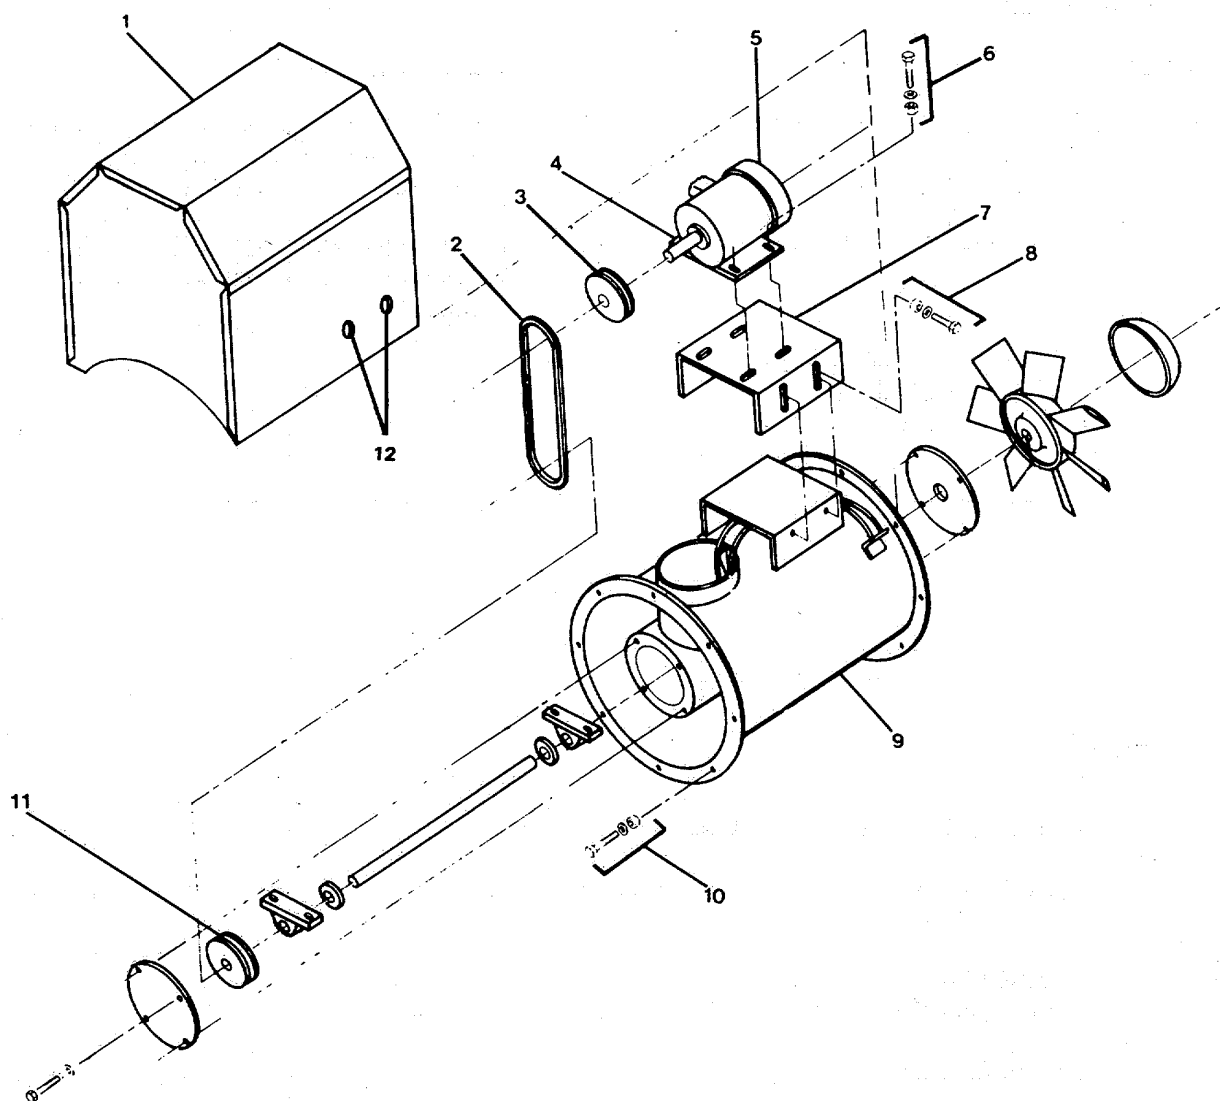
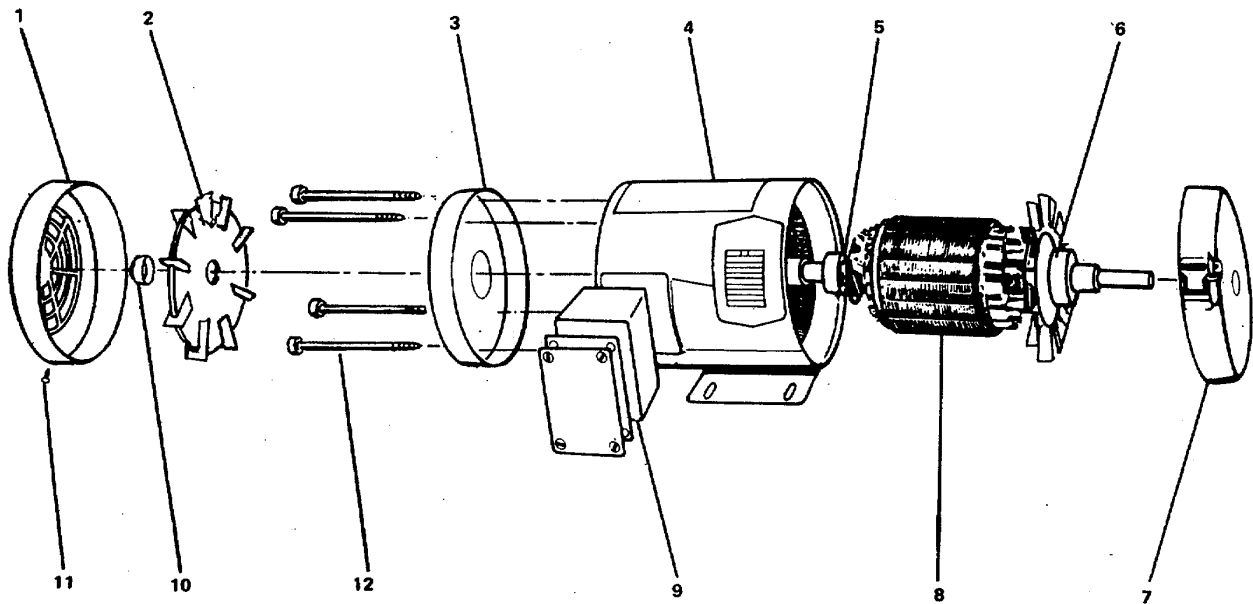
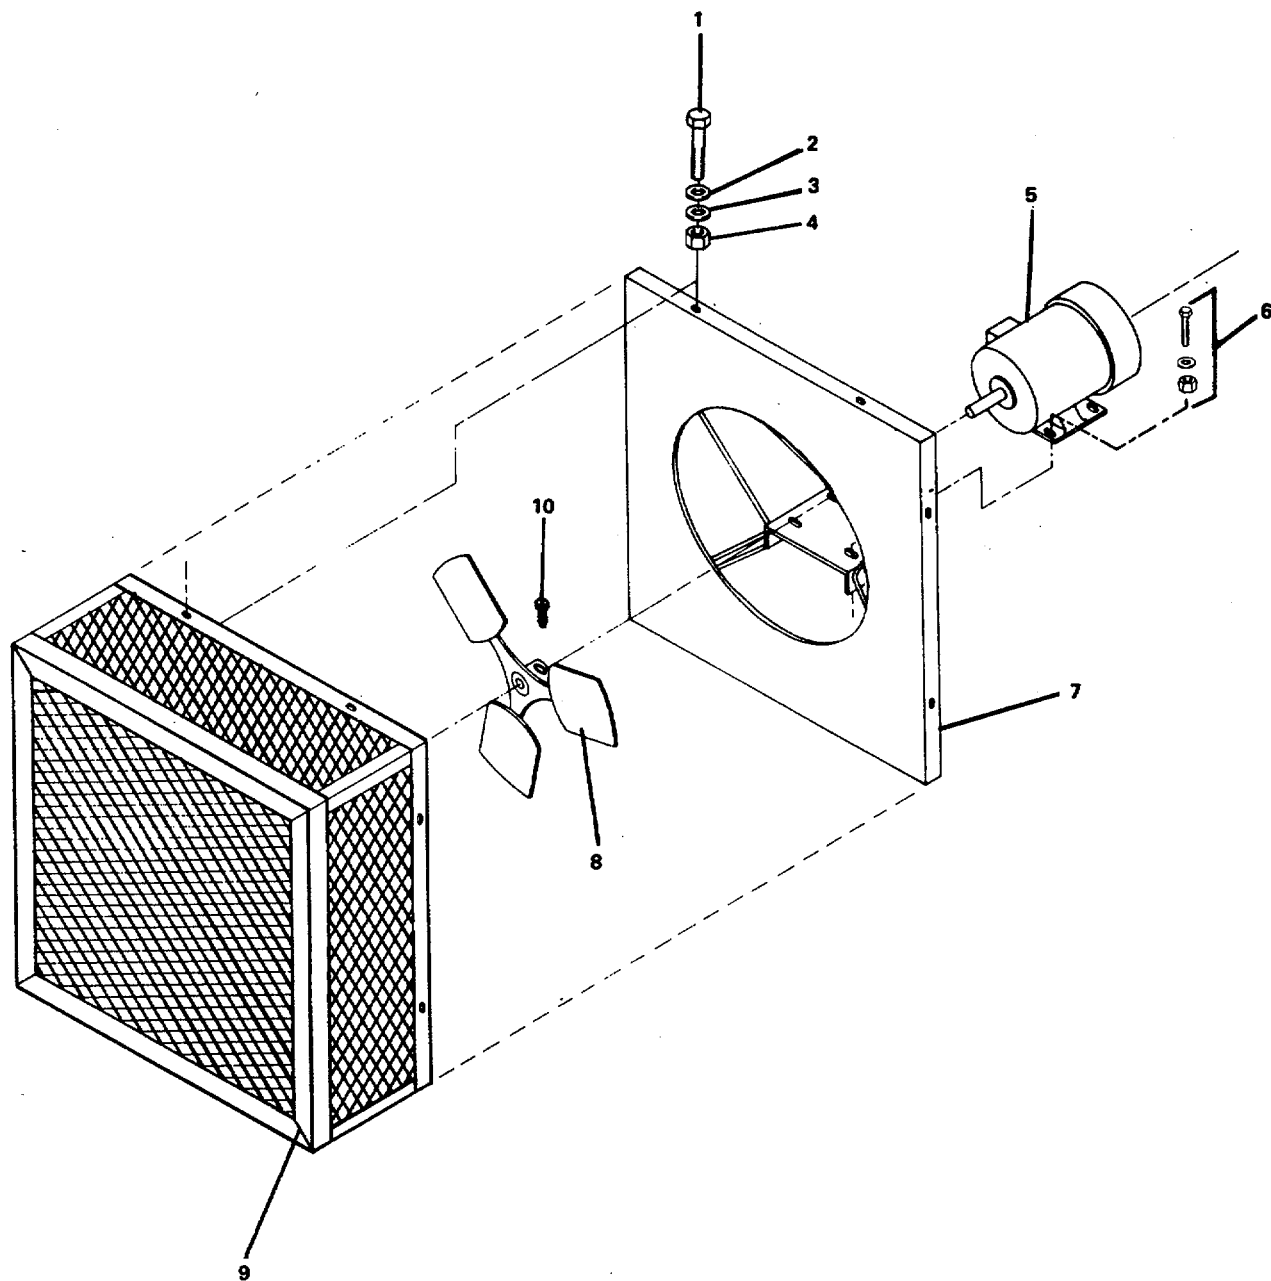

Figure 2-15. Ventilating Fan (Supply Fan #4).
Figure 2-16. Alternating Current Electric Motor.
Figure 2-17. Ventilating Fan (Supply Fan #5).
2-25. Repair Fan, Ventilating (Supply Fan #4) (Bowthruster Room). (FIGURE 2-15)**This task covers:**
2-26. Replace/Repair Motor, Electric, Alternating Current (Supply Fan #4). (FIGURE 2-16)
- b. Tag and disconnect electrical wiring in motor terminal box (9, FIGURE 2-16).
- c. Refer to paragraph 2-25 and FIGURE 2-15, and remove the motor as follows:
- (1) Loosen tension on V-belt. Remove belt from around motor pulley (3, FIGURE 2-15).
- (2) Use a puller and remove the motor pulley (3) and machine key (4).
- (3) Remove motor mounting bolt, nut, and lockwasher assemblies (6).
- (4) Remove the motor (5) from the motor base (7).
Repair consists of replacing bearings (5) and (6), FIGURE 2-16.
- (1) Remove screws (11) and remove fan cover (1).
- (2) Remove locking hub (10) and external fan (2).
- a. Refer to paragraph 2-25, and FIGURE 2-15, and install the motor as follows.
- (1) Position the motor on mounting base (7, FIGURE 2-15).
- (2) Install motor mounting bolt, nut, and lockwasher assemblies (6). Do not secure until pulleys (3) and (11) are aligned.
- (3) Align pulleys (3) and (11), install V-belt (2) and adjust tension (paragraph 2-25).
- (4) Connect electrical wiring to proper terminals in motor terminal box (9, FIGURE 2-16).
2-27. Repair Fan, Ventilating (Supply Fan #5) (A/C and Emergency Generator Room). (FIGURE 2-17)
- a. Remove bolts (1), flat washers (2), and lockwashers (3) and nuts (4) and remove box guard (9, FIGURE 2-17).
- b. Loosen setscrew (10) and remove impeller (8) from motor (5) shaft.
- c. Tag and disconnect wiring from motor (5) terminal box.
- d. Remove the panel (7) with motor (5) from its mounting.
Repair consists of replacing the alternating current motor (5, FIGURE 2-17) or the motor bearings (5, 6, FIGURE 2-16).
- a. Remove the motor (5, FIGURE 2-17) from panel (7) as follows:
- (1) Remove bolt, nut, and lockwasher assemblies (6).
- (2) Remove the motor (5).
- c. Install the motor (5, FIGURE 2-17) on panel (7) mounting plate as follows:
- (1) Position motor on mounting plate.
- (2) Install mounting bolt, nut, and washer assemblies (6).
- (3) Tighten bolts firmly.